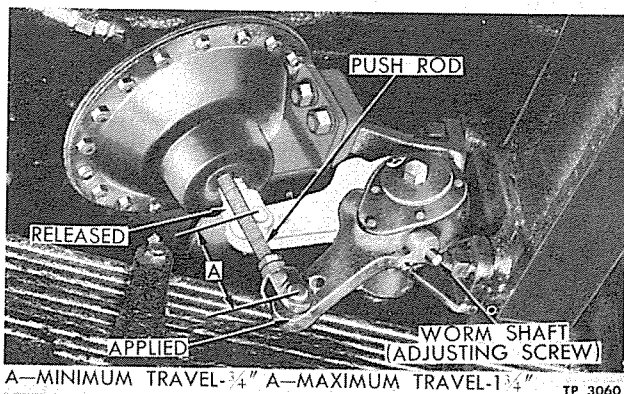

Figure 2—Brake Adjustment (Typical)
Service brake adjustment for normal lining wear is made by turning slack adjuster worm shaft (fig. 2). Slack adjuster worm shaft rotates camshaft, changing cam position in relation to brake chamber push rod, thus adjusting clearance between shoes and brake drum. Brake cham-
ber push rod travel should be checked after every 1,000 miles of operation to determine whether adjustment is necessary. While maximum travel is permissible, it is advisable to maintain travel as close to minimum as possible, both for braking efficiency and economy in air consumption. Brake linings should be replaced when they become worn to a thickness of 5/16" at center of shoe. The adjustment is made as follows (fig.2):
3. If travel is appreciably greater than minimum shown in figure 2, turn slack adjuster worm shaft until travel is reduced to minimum.
4. Be sure wheel turns freely with no brake drag when brakes are fully released. It is not advisable to reduce the push rod travel below the minimum shown in figure 2.